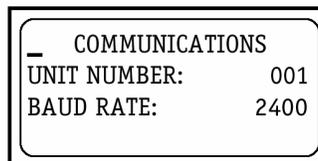

Figure 1
3. In Level 3, press the 'Select' key to scroll to the "Communications Screen". See Figure 1.